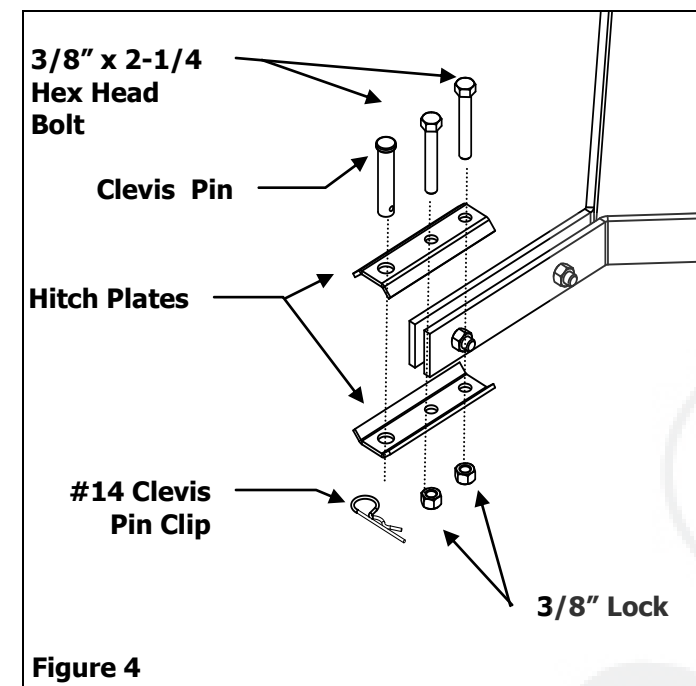

Figure 4
8. Attach the two Clevis Plates to the end of the Hitch Side Bar using 3/8" x 2-1/4" Hex Head Bolts for the Clevis Plates. "Straddle" (one bolt on each side) of the front 3/8" x 1-1/2" Hex Head Bolt on the end of the Hitch Side Bar. This keeps the Clevis Plate assembly from slipping off the Hitch Side Bars when the unit is in use. See Figure 4.
9. Now tighten the four 3/8" x 1-1/2" and the 3/8" x 2 - 1/4" and 3/8" Lock Nuts. See Figure 4.